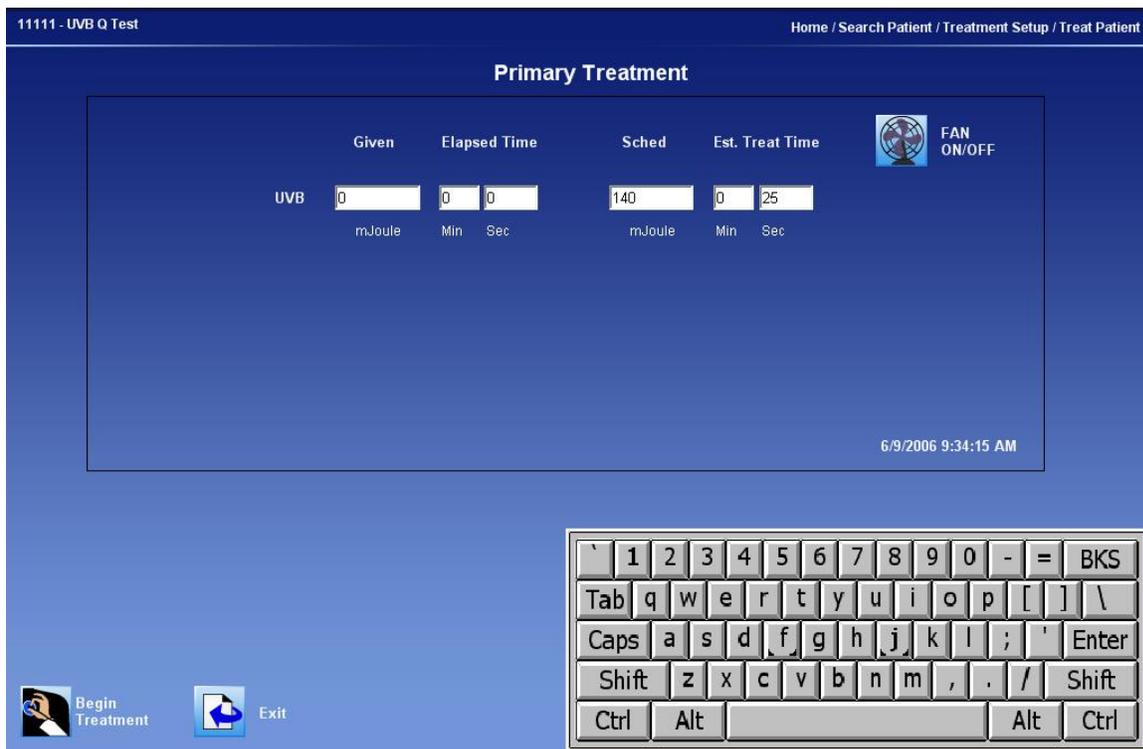

Figure 18 Treatment in Process Screen
6. Press the **Continue** button. The Treatment in Process screen will appear (See Figure 18).